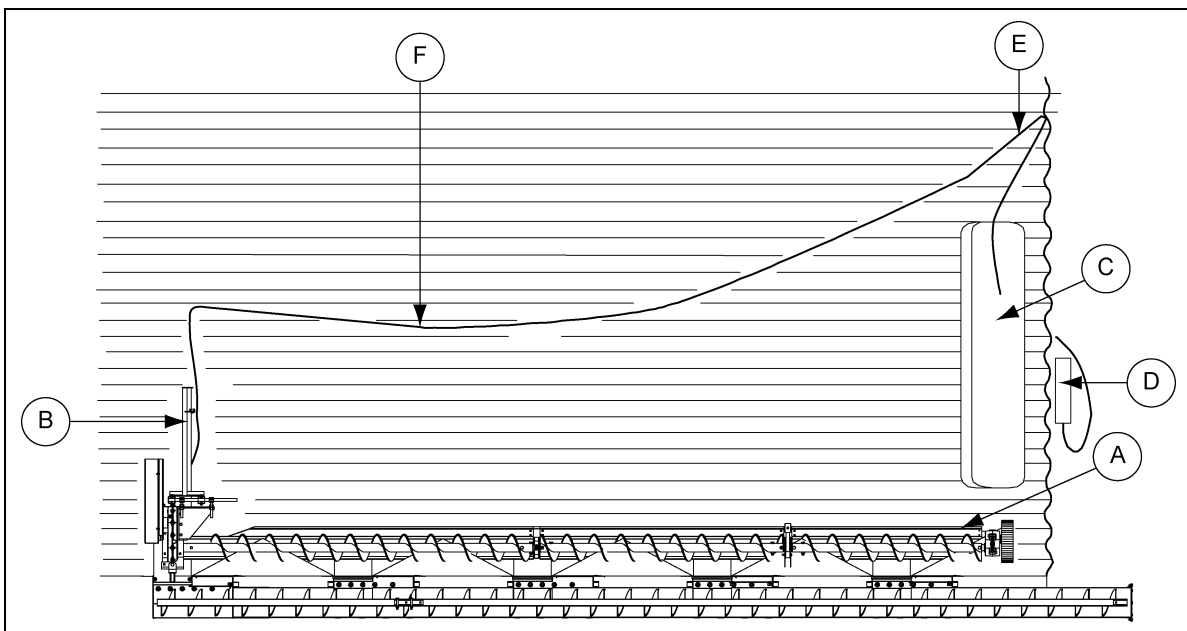

Figure 6G
7. Make power connection. (See Figure 6G.)